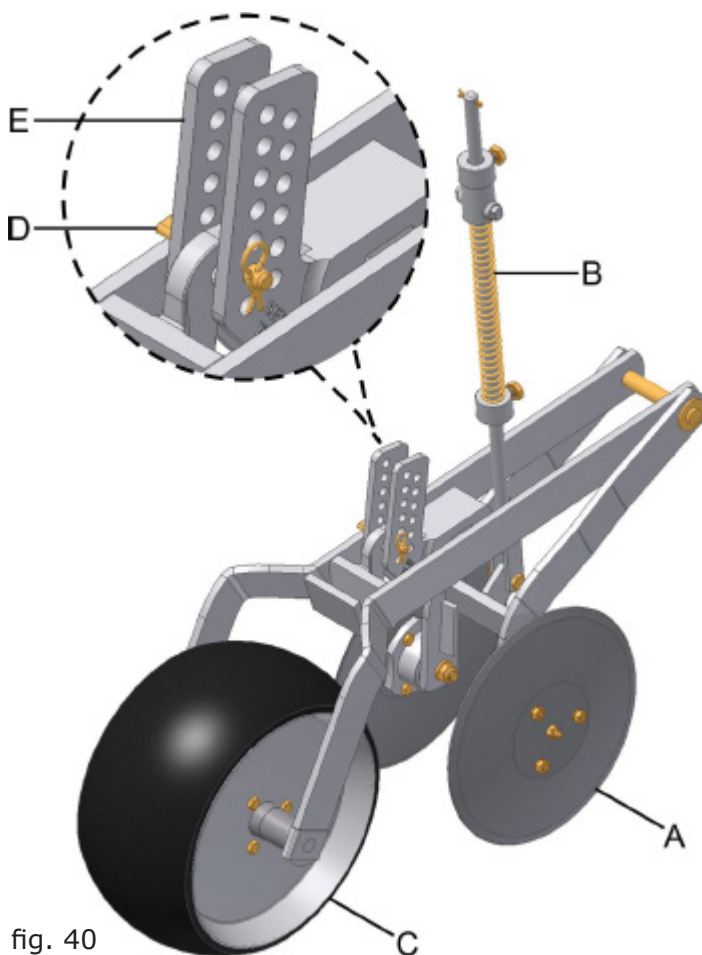

fig. 40
The covering disks (A) (fig. 40), have the function of bringing again the earth which the furrow blade and double disk of the seed removed so that then the compacting and limiting wheel (C) executes the closing and compaction of the furrow.